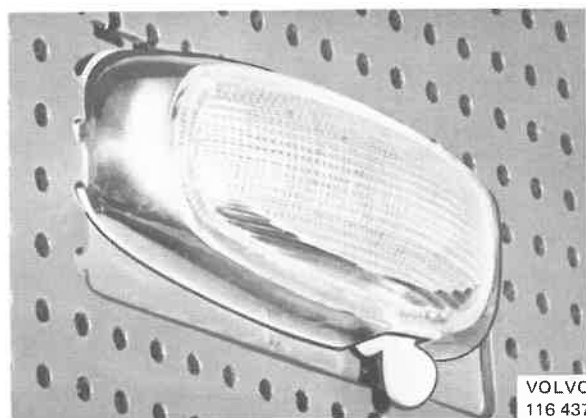

Fig. 35-8. Courtesy lighting
1. Move the glass by pulling it rearwards, see Fig. 35-8.